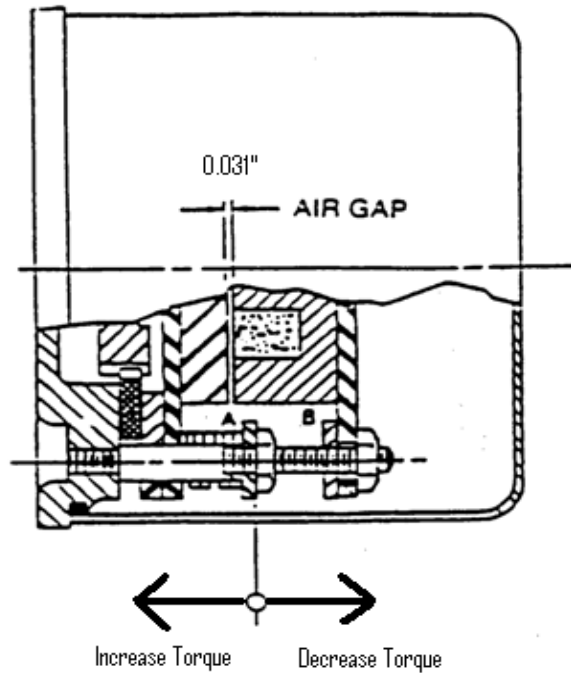

Figure 1
8. Install the lock nut (9649), pole plate, and nylock nut (96jn) on the brake stud and set the air gap at 0.031" (1/32") which is measured between the faces of the armature and pole plates (Figure 1).
The brake torque can be adjusted for the application to achieve the desired stopping distance. To adjust the torque, loosen the jam nuts (A) and adjust the lock nuts in the direction of the preferred arrow above to increase the torque or decrease the torque (Figure 1). Make sure the springs are adjusted evenly to prevent problems. After adjusting, measure both springs to make sure they are even, and then tighten the jam nut against the lock nut.
To prevent brake damage, the air gap cannot exceed at 0.062" (1/16"). To adjust the air gap, loosen the nylock nut and adjust the lock nut (B) until the distance between the armature plate face and pole plate face is 0.031" (1/32") (Figure 1).